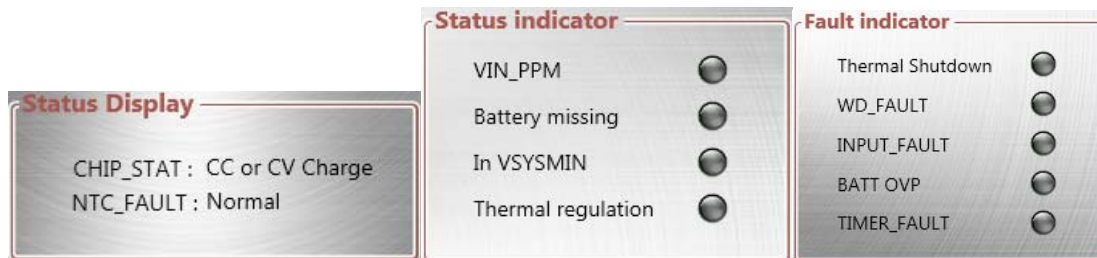

Figure 7: Status and Fault Report for the MP2672A
4. Set the balance parameters (see Figure 7)
5. Monitor the registers to obtain the MP2672A’s operation status and fault report (see Figure 7).